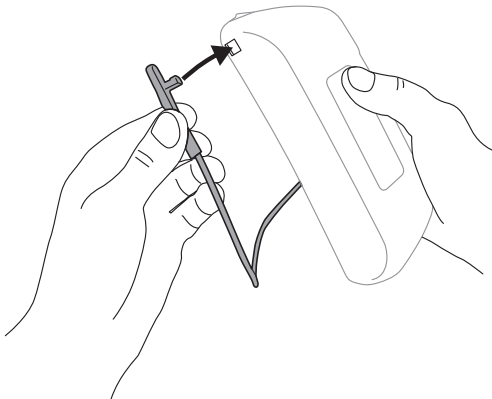

Fig. 31k
- x. Attach the task light cable to the battery and slip it into the battery pouch, sealing with the hook and loop closure (Fig. 31k and 31l).